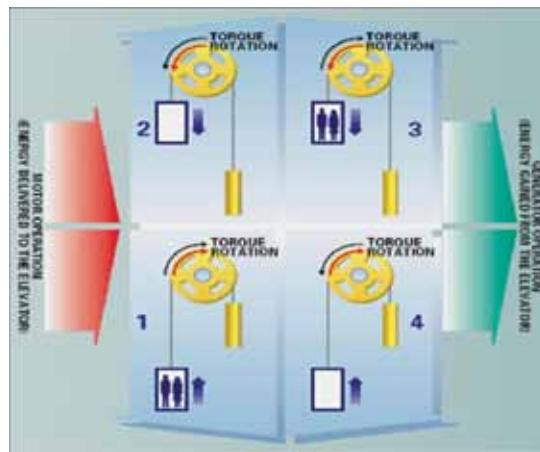

Figure 4
2. **Continuous Deceleration:** When a load such as a decline conveyor operating under the influence of gravity will overhaul the motors speed and the drive is used to regulate the speed in a slower controlled fashion than what the natural physics of the application would produce. This would also be a general description for a hoist and crane application. (See figure 4)